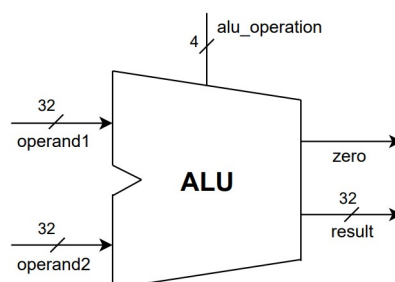

Figure 1.1: ALU
**Task 1:** Draw the schematic / block diagram of the ALU shown in Figure 1.1 using draw.io.
The input and output port names are as shown in Figure 1.1. The ALU module takes two input operands and performs an operation specified by the control signal **alu\_operation** and produces the **result**. In addition to the result, the ALU generates a **zero** flag, which is asserted when the result of a subtraction operation is zero.